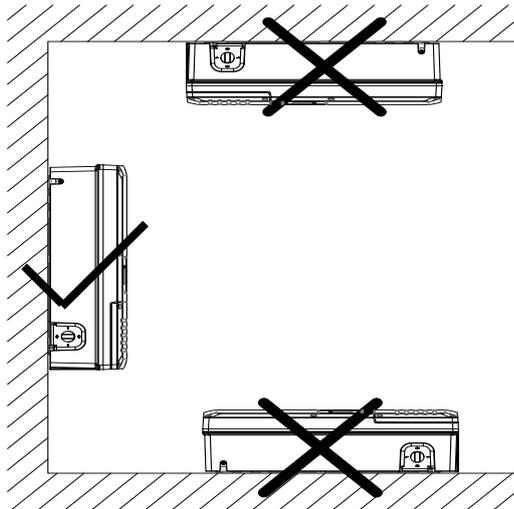
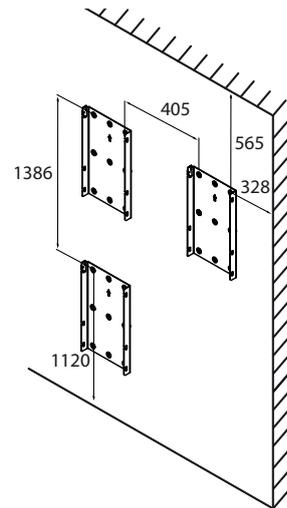

Figure 9: Instructions for wall mounting
Figure 10: Drill stencil for wall mounting with minimum clearances (in mm)
- Minimum clearances for assembly: see Figure 9 and Figure 10 on page 20 and Figure 11 on page 21.
NOTE: The minimum clearances between two inverters, or the inverter and the ceiling/floor have already been taken into account in the diagram (see Figure 10 on page 20) .